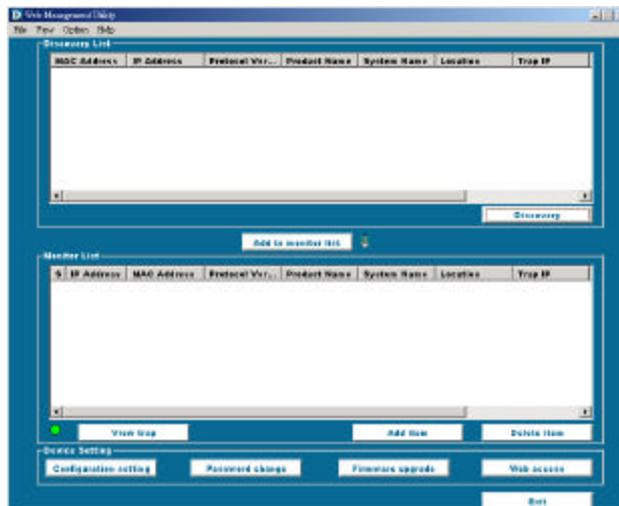

Figure 1. Web Management Utility
5. Upon completion, go to **Program Files** -> **web_management_utility** and execute the Web Management utility. (Figure 1.)